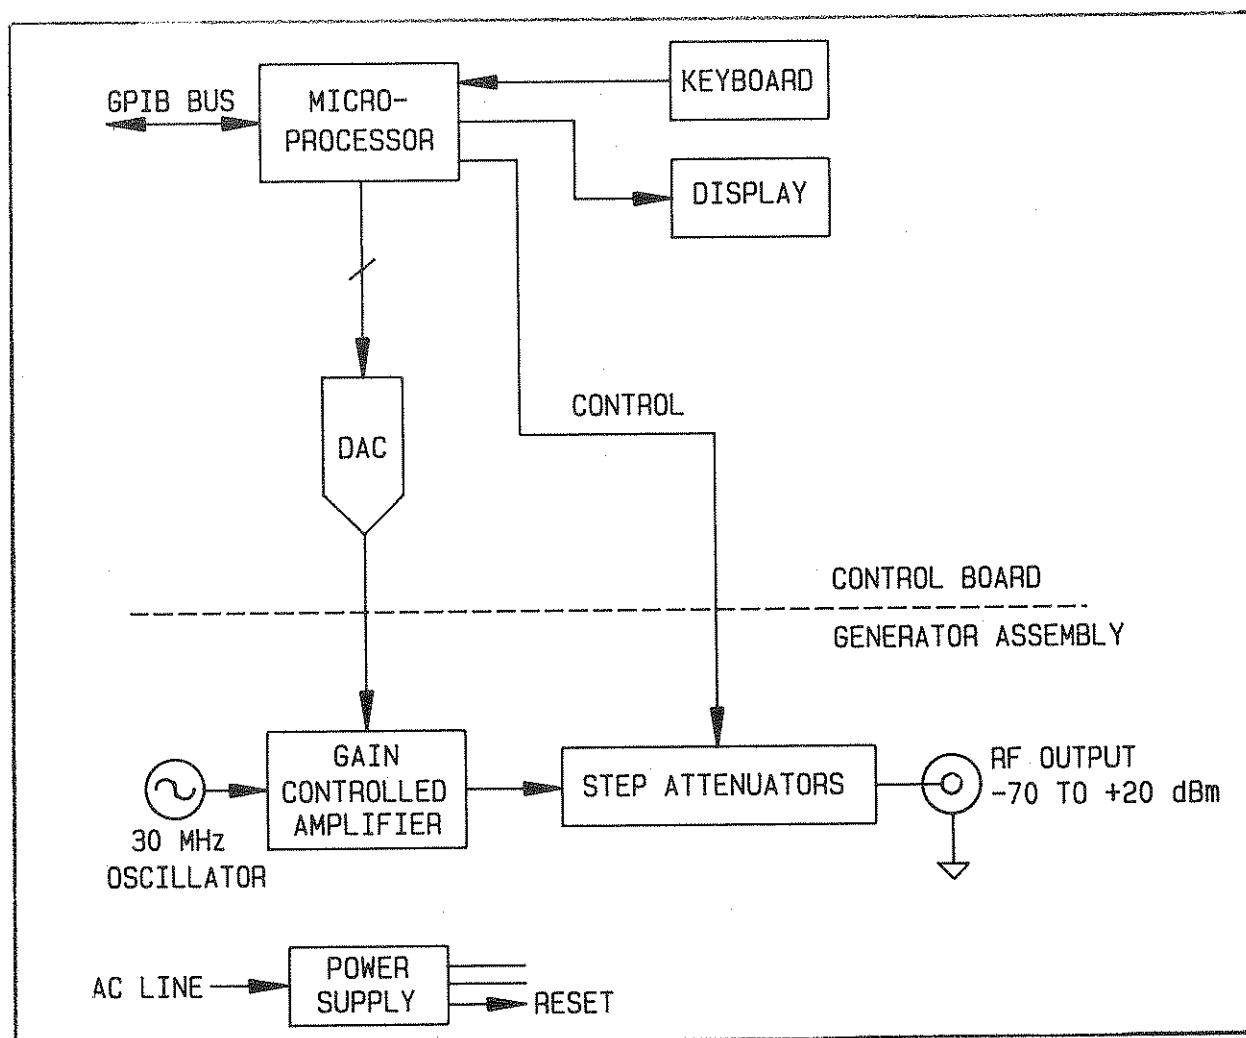

Figure 5-1. Overall Block Diagram
**5-1. INTRODUCTION.** This section contains circuit descriptions and software functions, and block diagrams for the 2520. Refer to the overall block diagram, Figure 5-1, which is described below.